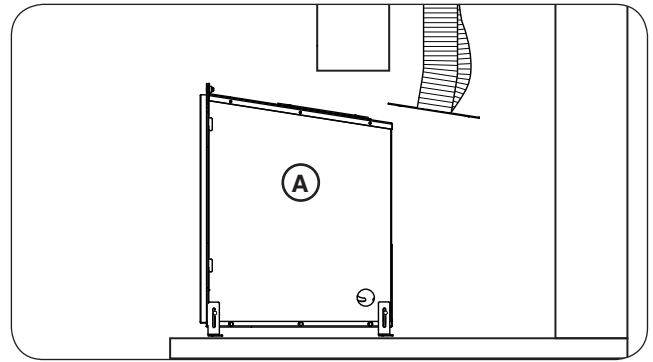

Fig. 27-1 Slightly slide in unit
1. Carefully slide the direct vent insert just inside of the fireplace opening, still allowing for access to the interior of the fireplace (see Fig. 27-1, A). Ensure the insert is properly supported during this entire process.